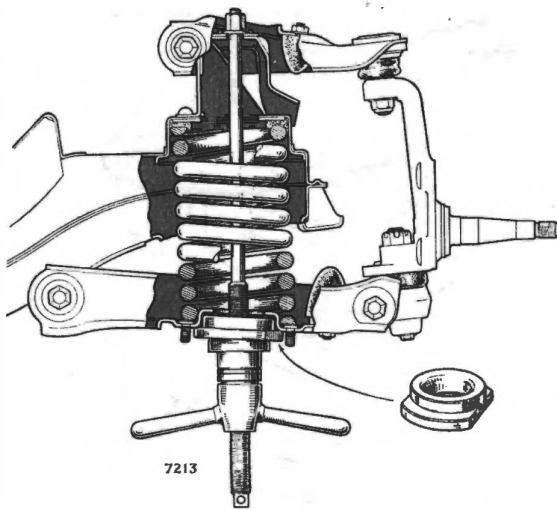

Fig. 29 Front suspension unit in static laden position with spring compressor RG. 50D in position
I. Remove the shock absorber from the suspension unit, see under "Shock absorber—To remove and refit"; fit and tension the spring compressor RG. 50D to bring the bottom link to the horizontal position (Fig. 29).
1. Remove the shock absorber from the suspension unit, see under "Shock absorber—To remove and refit"; fit and tension the spring compressor RG. 50D to bring the lower link to the horizontal position. (See Fig. 29).
1. Remove the shock absorber, compress the front spring with the special tool RG. 50D and detach the tapered ball pin of the lower swivel bearing from the stub axle, see under "Stub axle lower swivel bearing—To remove and refit". (See Fig. 29.)